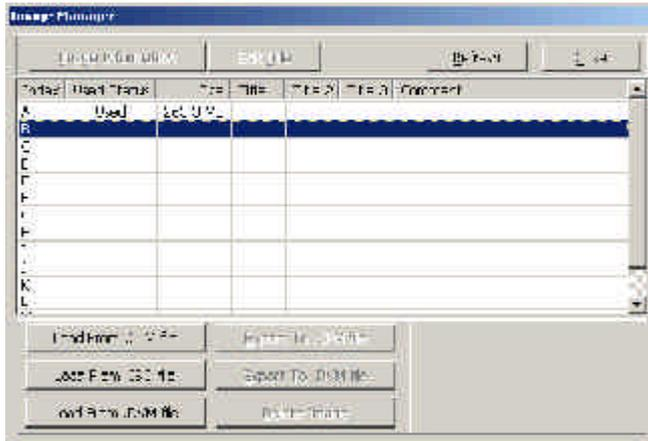

Figure 6
- (1) Transmit image files from PC to ARS-2037P
- In Figure 6 choose a blank partition like B in the hard drive of ARS-2037P to store the image files sent from PC. The file format should be .cpm, .iso or .dvm.